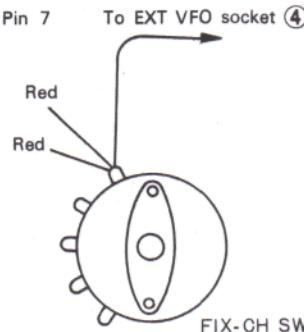

Fig. 13
6. Remove and insulate the lead from the EXT VFO socket pin ④ connect the common 9V terminal on the FIX CH switch with the EXT VFO socket pin ④ (Fig. 13).
7. Connect 2 capacitors ( $0.01\mu F$ ) across pins ③ and ⑤ and ③ and ⑦ on the EXT VFO socket.
9. When connecting a remote VFO, such as the VFO-820, remove and insulate the lead from pin 4 on one 9P-MT plug, and connect pin ④ with pin ⑦ on the transceiver-side plug. After modification, the Remote VFO lamps won't light.\*